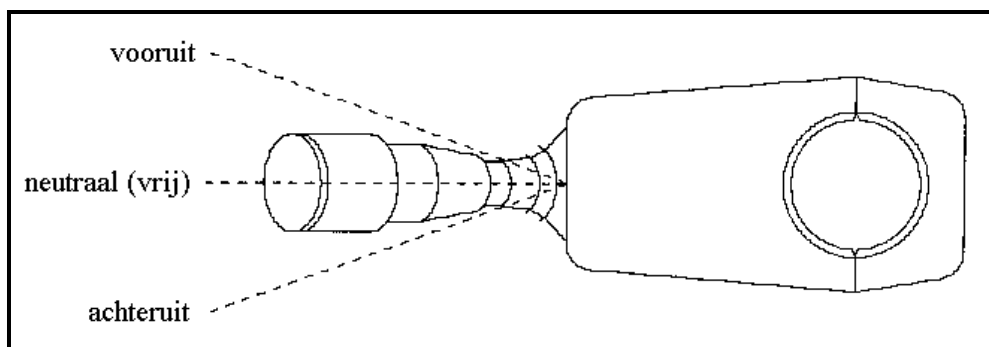

Figure 5.1 | Gear lever
1. Before starting the engine, the sink pedal must be fully depressed. Make sure that the gear lever on the left side of the steering wheel is in the neutral position (see Figure 5.1)